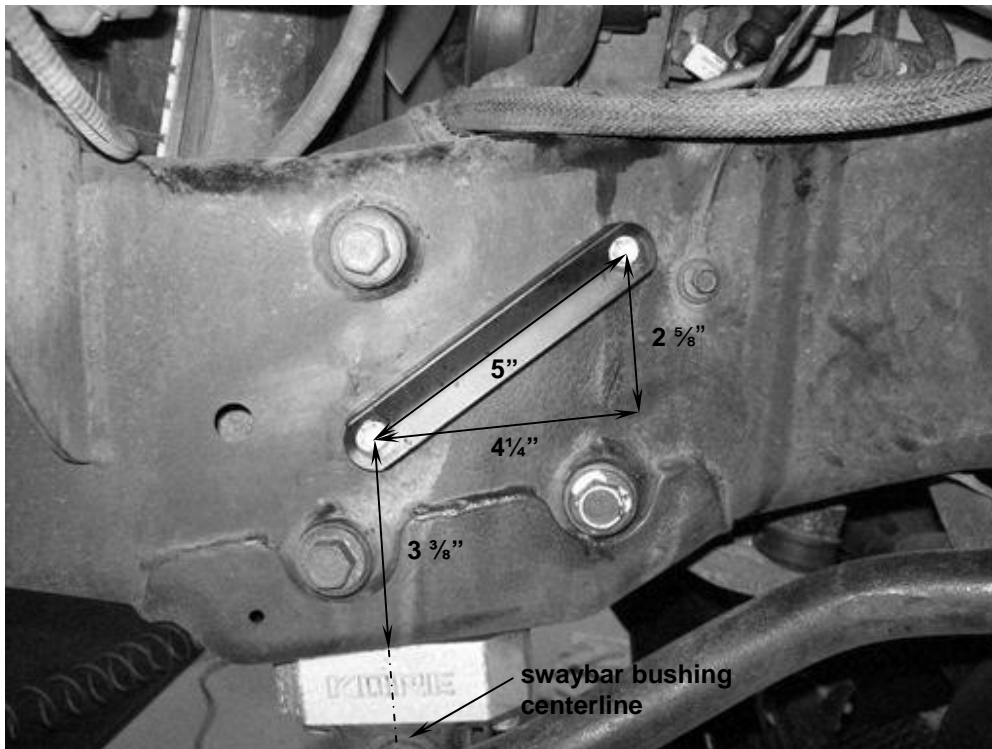

Figure 3
- C. Figure 3 depicts the recommended bracket position. The driver side is shown.